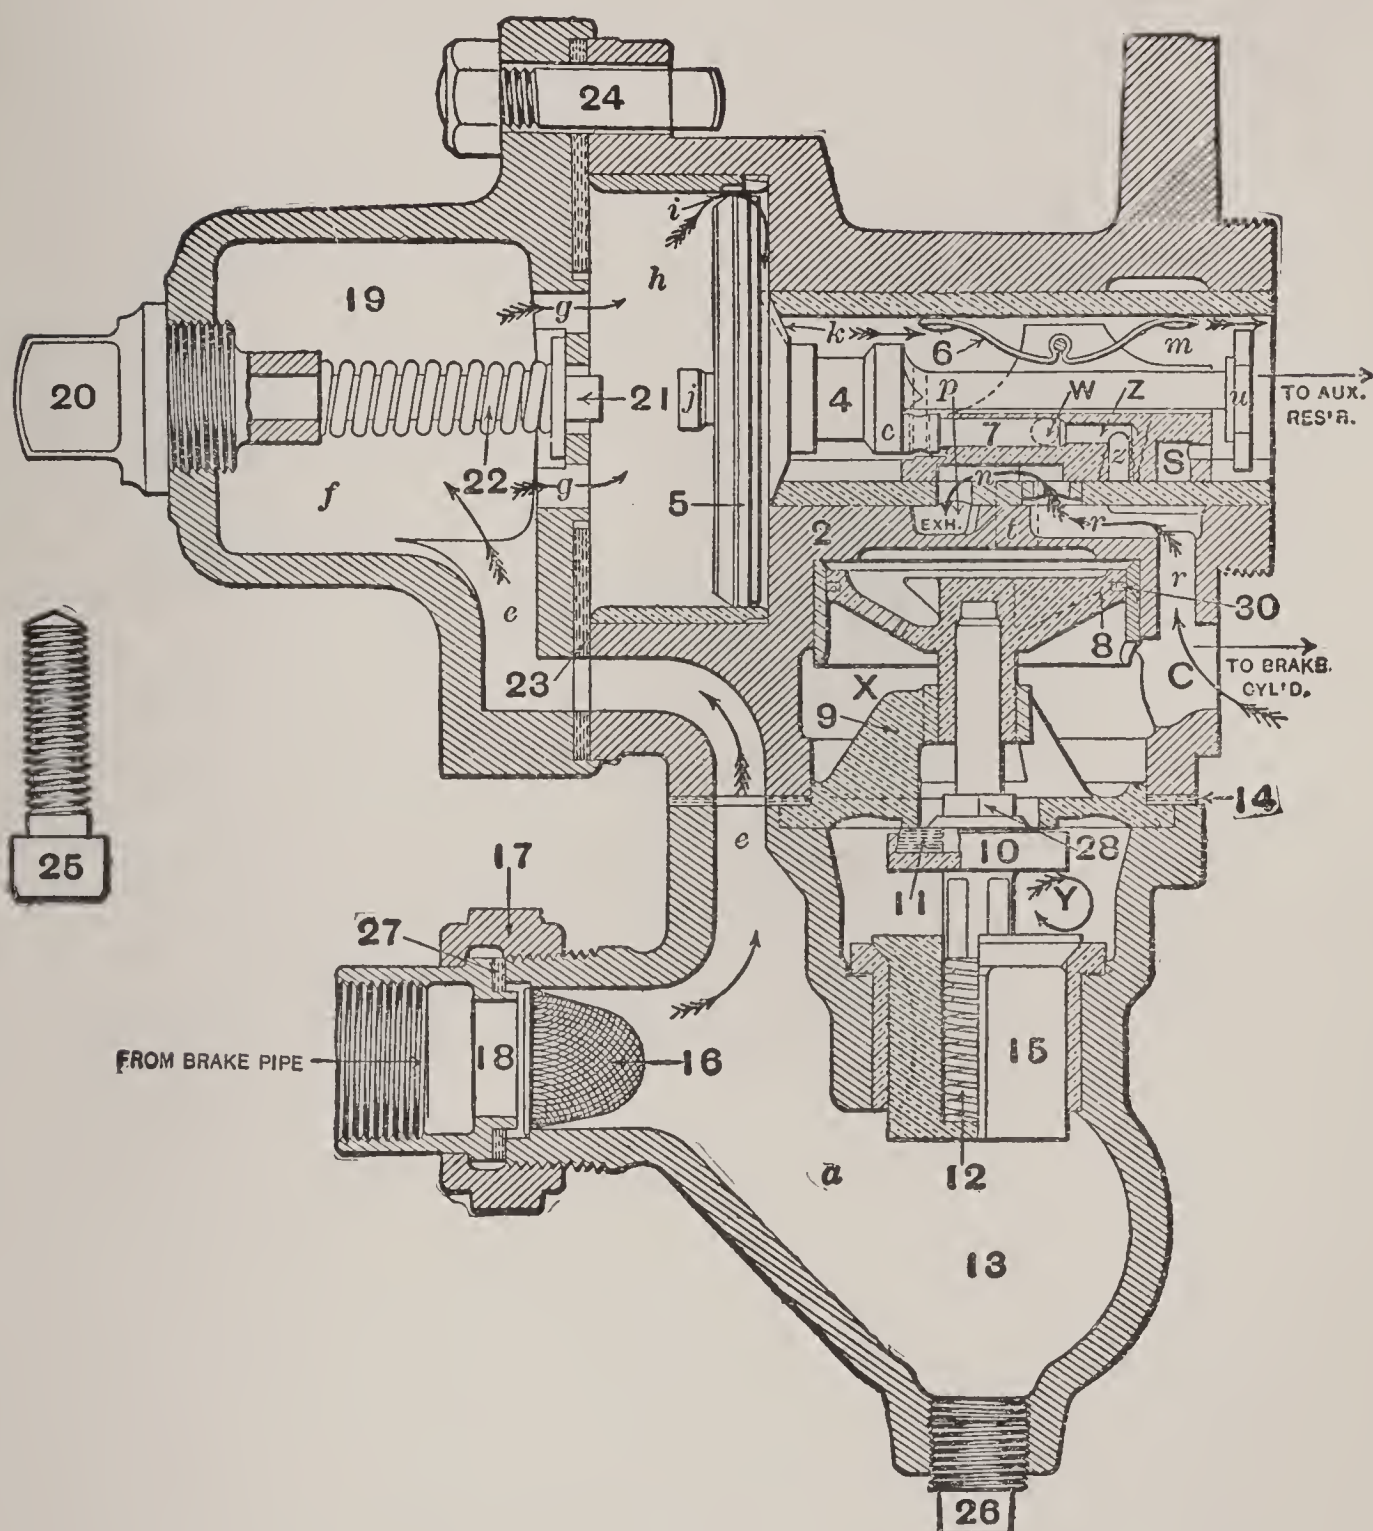
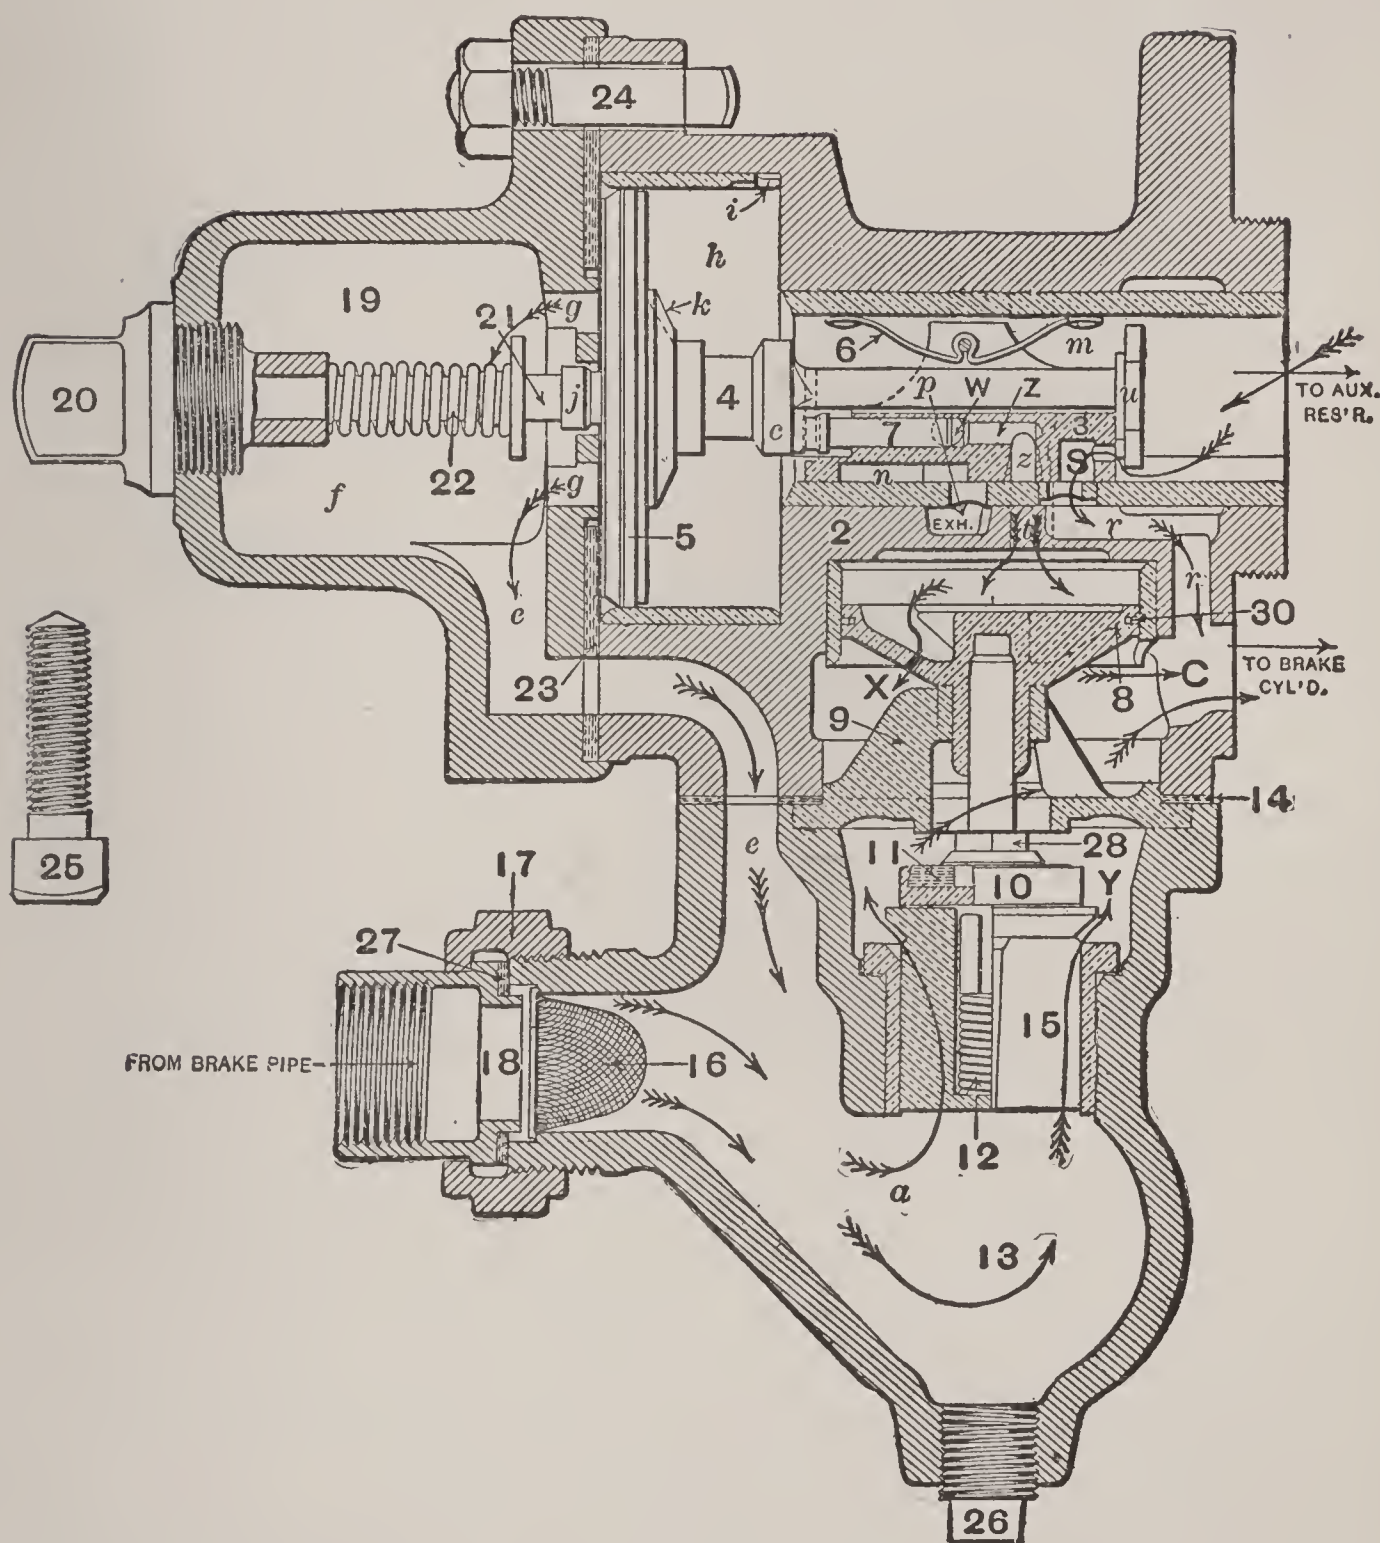
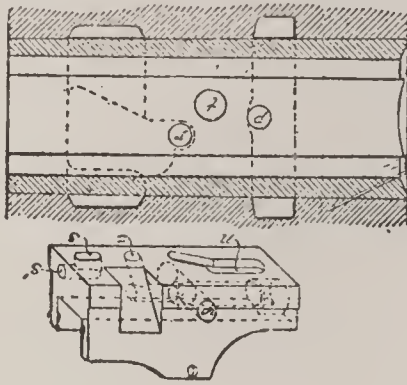

Fig. 1.
Fig. 4.
Fig. 5.
The quick action valve receives its name from three distinct operations it performs in response to variations of brake pipe and auxiliary reservoir pressures, which are (1) it charges the auxiliary reservoir; (2) applies the brakes; (3) releases the brakes. The various positions of the working parts of the triple in accomplishing these results are shown in Figs. 1, 2, 3 and 4. Fig. 5 is a perspective view of the slide-valve and its seat.
**List of Parts.** The various parts of the triple valve, as shown in Fig. 1, are as follows:
**Charging.** Air from the brake pipe enters the triple valve at a (Fig. 1) and flows through passages e, f, g and h, past the main piston, through feed grooves i in the bushing and k in the piston seat, and thence through chamber m to the auxiliary reservoir, as indicated. Air continues to flow from the brake pipe to the auxiliary reservoir until the pressures equalize, when the main piston is balanced.
**Emergency Application.** A gradual or service reduction of brake pipe pressure causes the main piston to move to the left until stem *j* encounters stem 21, when the tension of the graduating spring prevents a further movement, but a sudden brake pipe reduction causes the main piston to move out so quickly that graduating spring 22 cannot withstand the impact of stem *j*, but yields so that the piston moves to the position shown in Fig. 4. In this position a diagonal slot in the slide-valve (Fig. 5) uncovers port *t* (indicated by dotted lines just below the letter Z), which admits air from the slide-valve chamber to the chamber above emergency piston 8. Piston 8 is thereby forced downward and unseats emergency valve 10, allowing the pressure in the small chamber Y, above check-valve 15, to escape into the brake cylinder. The brake pipe pressure almost instantly raises the check-valve, and the brake pipe air rushes through chambers *a* and Y into the brake cylinder at C. Air from the auxiliary reservoir simultaneously flows through port S of the slide-valve and passage *r* into the brake cylinder, but port S being very small in comparison with the passage-way through chambers *a*, Y and C, only a small amount
**Release.** To release the brakes, the engineman admits main reservoir pressure into the brake pipe, thus increasing the pressure upon the brake pipe face of the main piston until it becomes greater than that upon the auxiliary reservoir side, and forcing the piston to its normal or release position, shown in Fig 1. In this position the air in the brake cylinder is discharged through passage *r*, exhaust cavity *n* in the slide-valve, and passage *p* to the atmosphere, either directly or through the pressure retaining valve. Feed groove *i* being again uncovered, the auxiliary reservoir becomes recharged with air from the brake pipe.